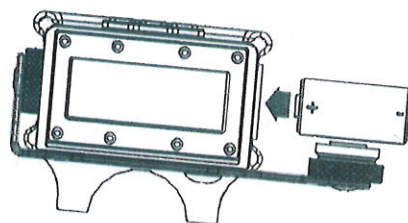
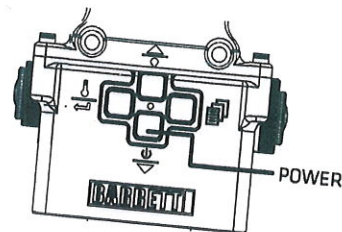

FIGURE 1
FIGURE 2
5. Turn BORS "ON": Ensure the battery is properly installed and press the Power Button to turn BORS on. See Figure 1 and Figure 2.